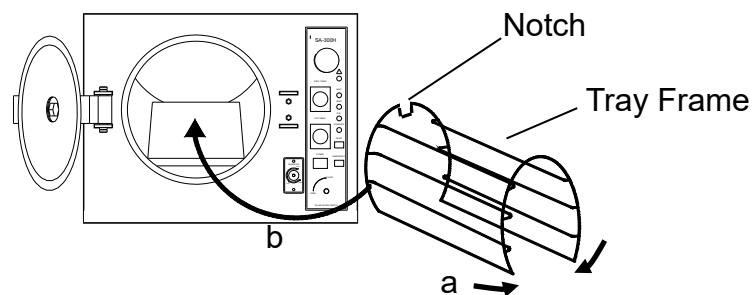

Figure 7
E. Install the tray frame as Figure 7. (optional accessory)